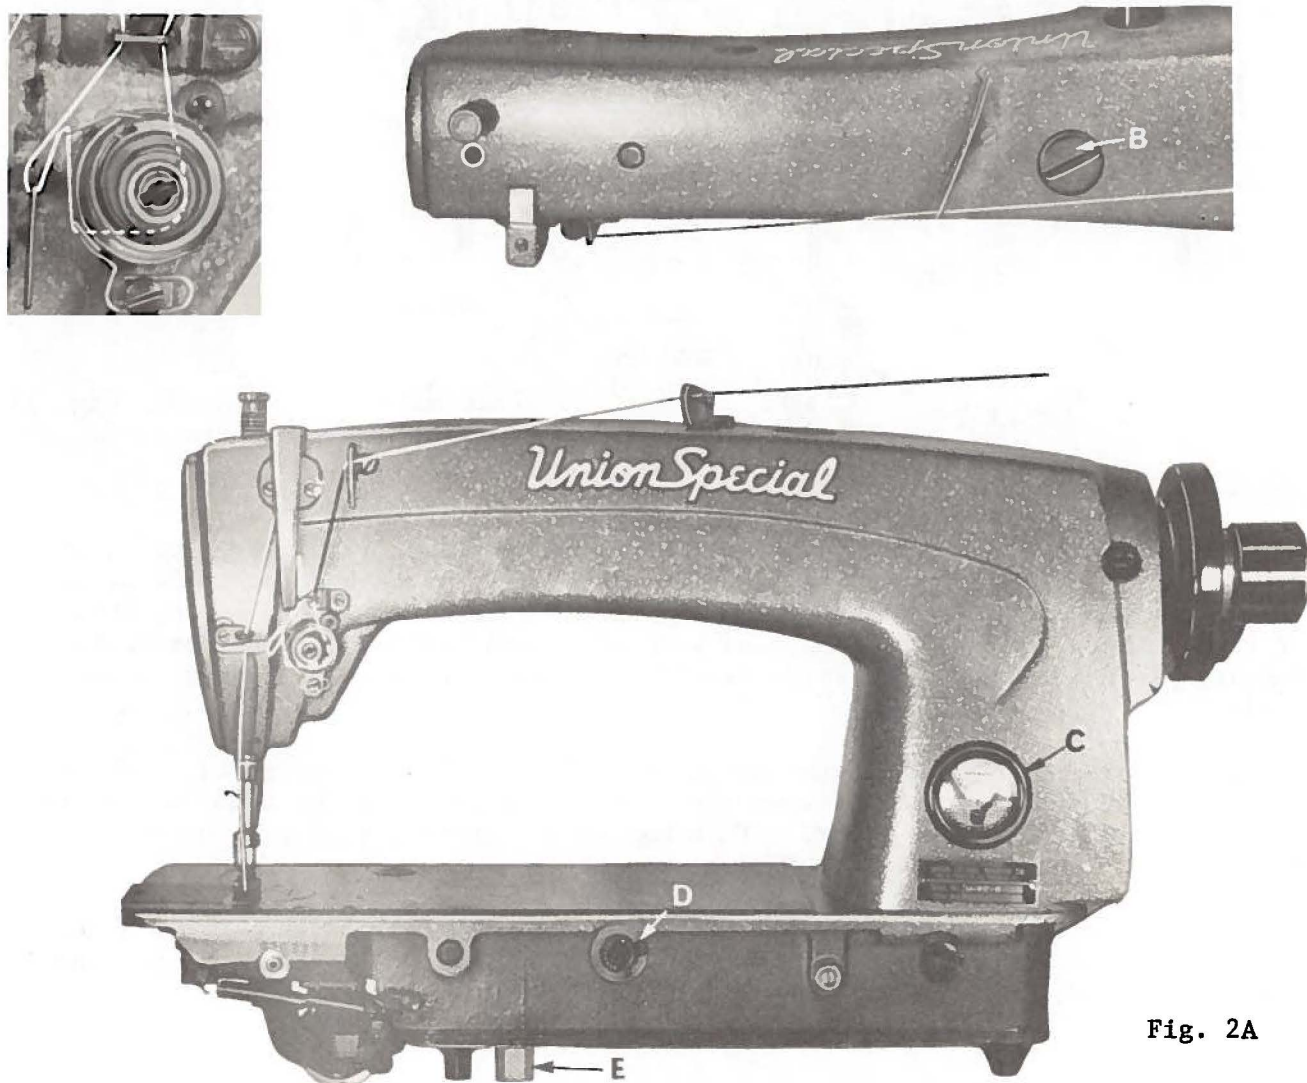

Fig. 2A
Thread machine as indicated in Fig. 2A. Threading at check spring has been enlarged for clarity. Needle is threaded from left to right.
Fill main reservoir at plug screw (B, Fig. 2A) and check oil level at gauge (C); oil is at maximum level when needle is in yellow band marked "FULL". Oil should be added when needle is in yellow band marked "LOW". Use a stainless water-white straight mineral oil of a Saybolt viscosity of 90 to 125 seconds at 100° Fahrenheit in the main reservoir. This is equivalent to Union Special specification No. 175.
Oil may be drained from main reservoir by removing plug screw (E, Fig. 2A).